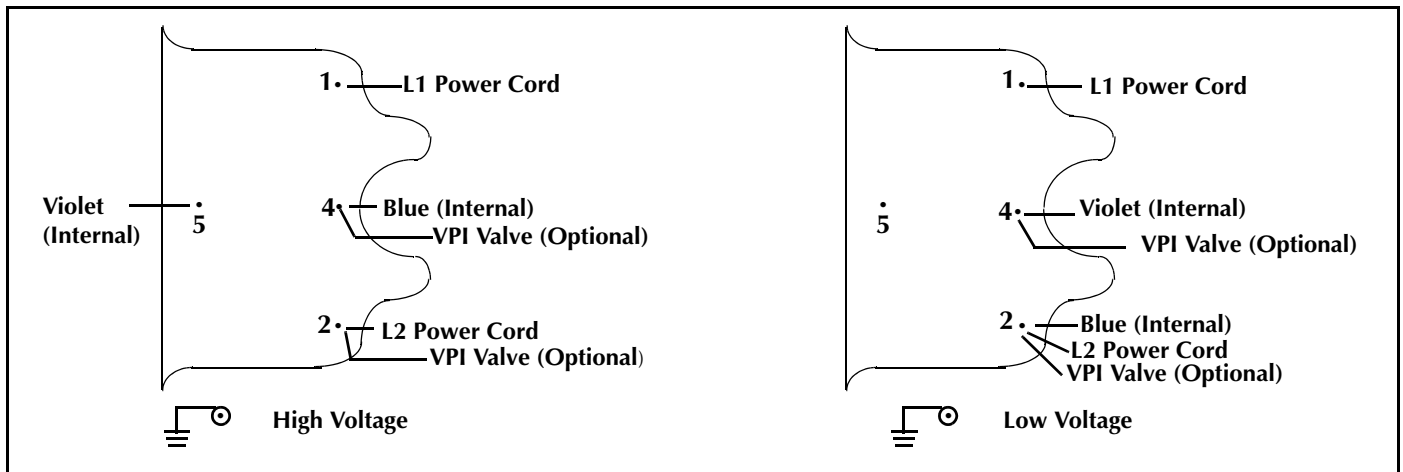

Figure 4 Single Phase Motor Electrical Connections
The pump can be configured for low voltage, 100 VAC to 115 VAC, or for high voltage, 200 VAC to 230 VAC. As supplied from the factory, the pump is configured for low voltage. Figure 4 shows the electrical connections for a single phase motor.
3. Refer to Figure 4 to connect the motor to match your supply voltage.
4. Wire L1 and L2 per Figure 4 using right angle flag connectors or ring connectors.
6. Replace the motor electrical cover and secure it with the three (3) screws removed in step 2.
Using the data in Table 3, verify that the VPI Valve chosen is compatible with the TriScroll supply voltage and frequency. Then, locate the proper wiring diagram to use (Figure 4 on page 7).
2. Connect the VPI Valve solenoid wire leads to the pump motor as shown in Figure 4.